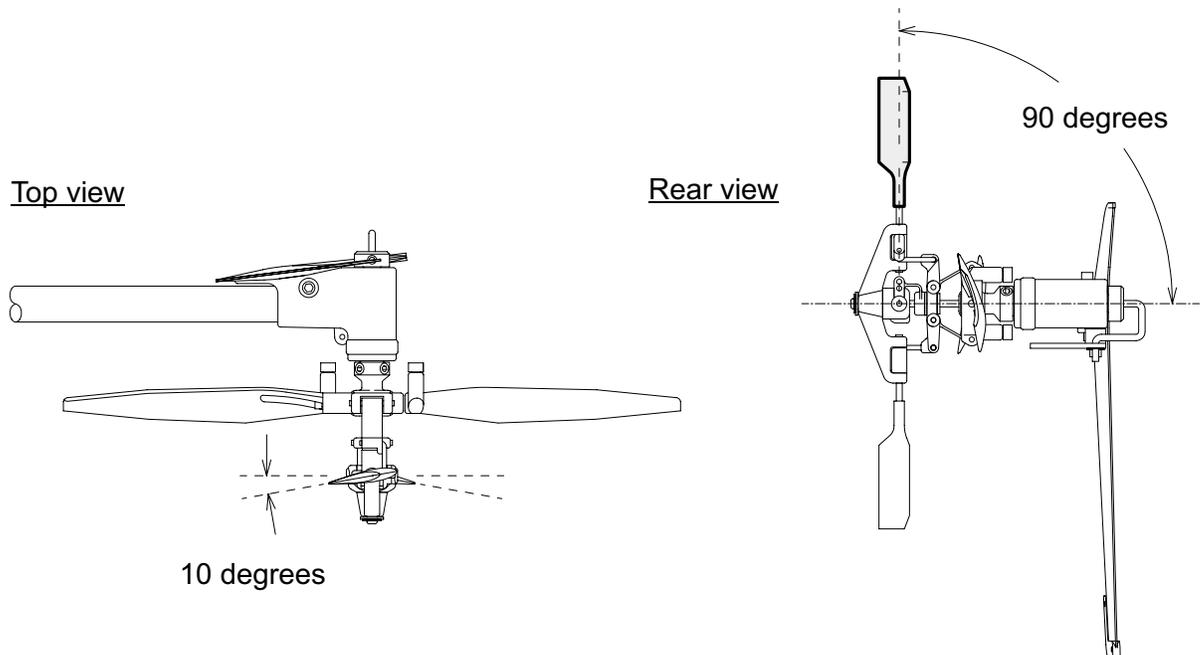

**Figure 12-4.**
- ❑ 7. Loosely bolt the tail boom assembly to the crutch using three 4-40 x 3/4" bolts, three nylock nuts and **OVERSIZE** washers (3/8" or 9.5mm outside diameter) as shown in Fig. 12-4. Move the crown gear up higher on the main shaft to clear the pinion gear on the tail tube if necessary.